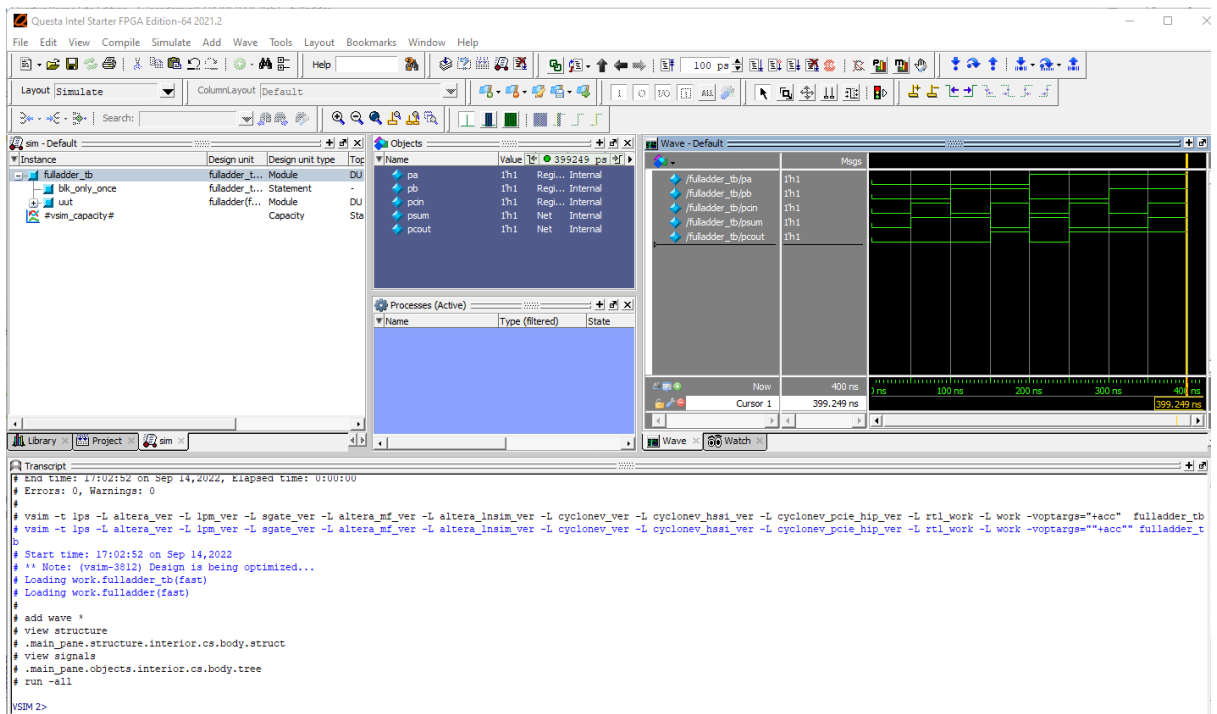

Fig. 1.16 Simulator output
- The testbench and source files will be compiled and the Questasim simulator will run (assuming no errors). You will see a simulator output similar to Fig. 1.16.